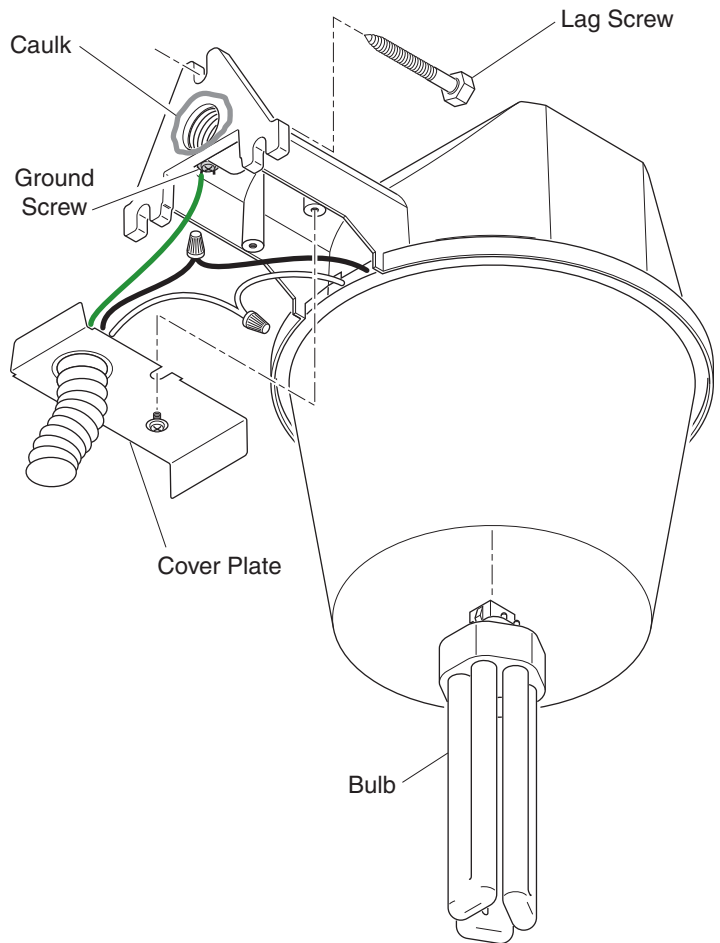

Figure 2
6. Remove the two screws attaching the fixture cover plate to the fixture (see Figure 2).
7. Route the service wires from the conduit through the fixture cover plate (see Figure 2).
1. Connect the fixture wires to the service wires as shown in Figure 2 (**black to black and white to white**).
2. This fixture **must** be connected to ground. Secure the service ground wire under the head of the green ground screw (see Figure 2).
3. Install the cover plate. Secure with the two screws provided (see Figure 2).